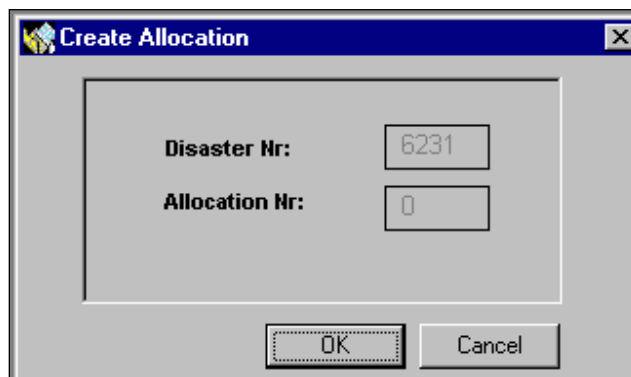

Figure 10-3: Create Allocation Dialog Box
2. The Create Allocation dialog box is displayed with a system-generated Allocation Nr (Figure 10-3).